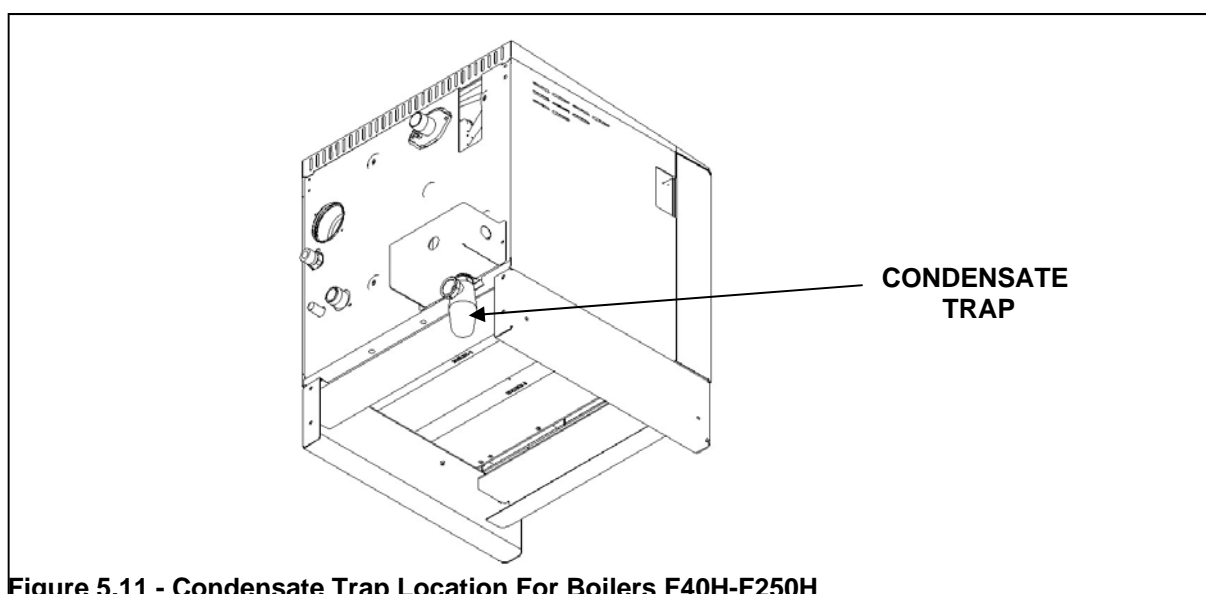

Figure 5.11 - Condensate Trap Location For Boilers F40H-F250H
5.30 For assembly of condensate trap 531955009 to the spigot of the black plastic flue elbow on boilers F40H-F250H See Figure 5.11.